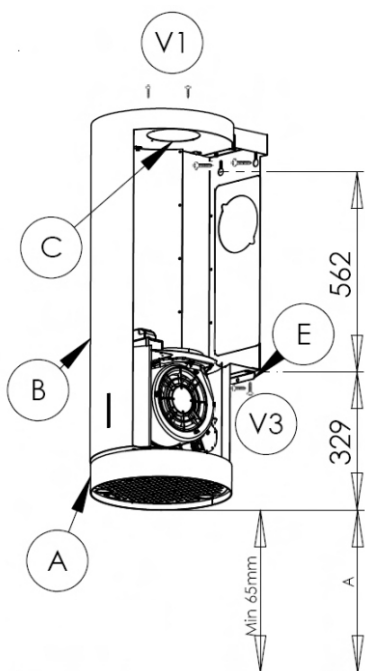
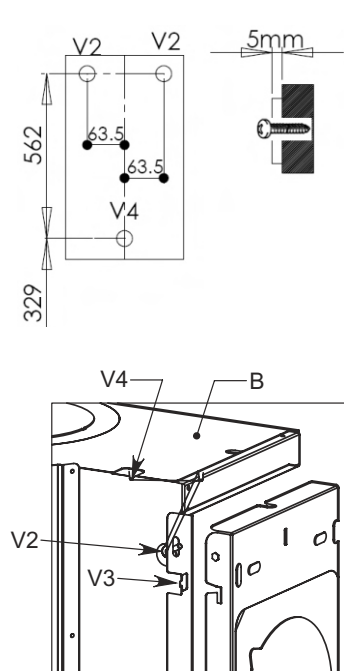

Fig. 1
Fig. 2
- 1.) Identify the desired distance (A) between the hood and the cooking surface (Fig.1) - recommended is 26" to 30".
- 2.) Remove the screws (V1) and remove the top (C).
- 3.) Mark the holes V2 and V4, following the dimensions of the drawing (see Fig. 2).
- 6.) Attach the security bracket (E) to the wall, as shown in Fig.1.